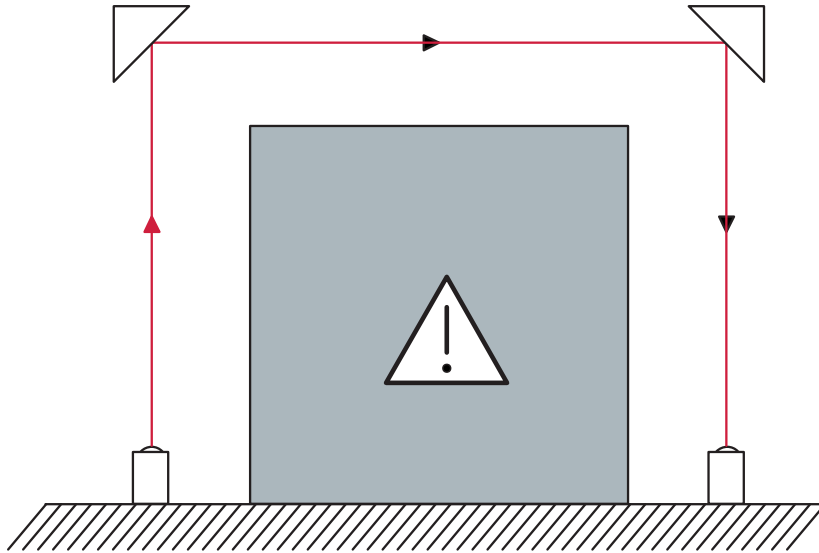

Figure 6.6: Arrangement of the deflecting mirrors
- Arrange the deflecting mirror so that the optical axis is aligned with the center of the mirror (See Figure 6.6:).